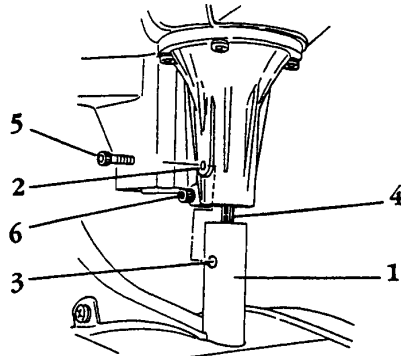

FIG. 2
- (FIG. 2) Slide the engine over the shaft pipe (1) and align the location bolt hole (2) in the casing with the hole (3) in the pipe. Replace and tighten the location bolt (5) and the shaft tightening bolt (6) with an allen head wrench. If the engine does not slide down far enough, rum it slightly in order to match the drive shaft splines (4) with those of the engine.